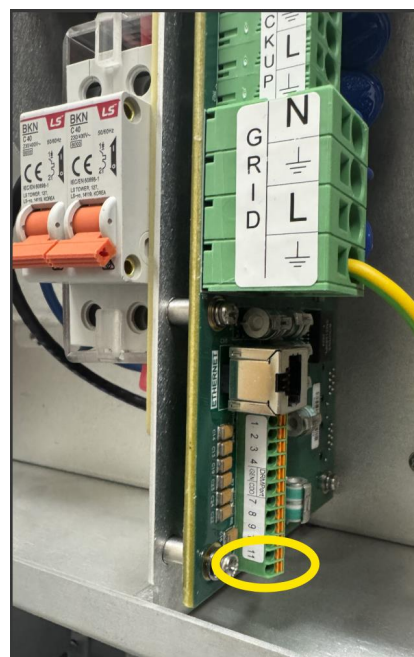

Figure 2: Pins 11 & 12
4. Connect a twisted pair cable (normally CAT6) that is correctly rated for the installation to **pins 11 and 12 (not labelled)** as shown in Figure 2 by the yellow circle.